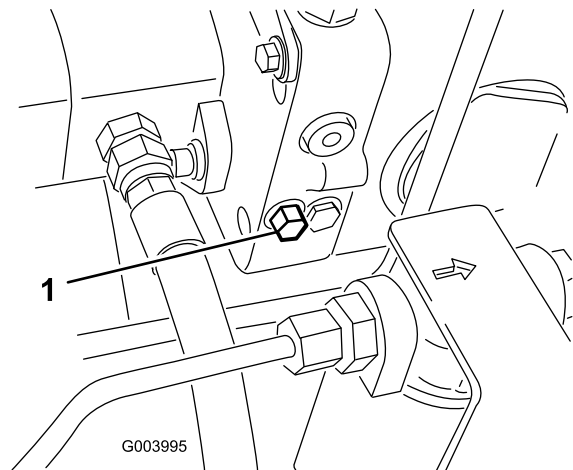

Figure 40
1. The bypass valve is located on the left side of the hydrostat (Figure 40). Rotate the bolt 1–1/2 turns to open and allow oil to bypass internally. Because fluid is bypassed, the machine can be moved slowly without damaging the transmission.